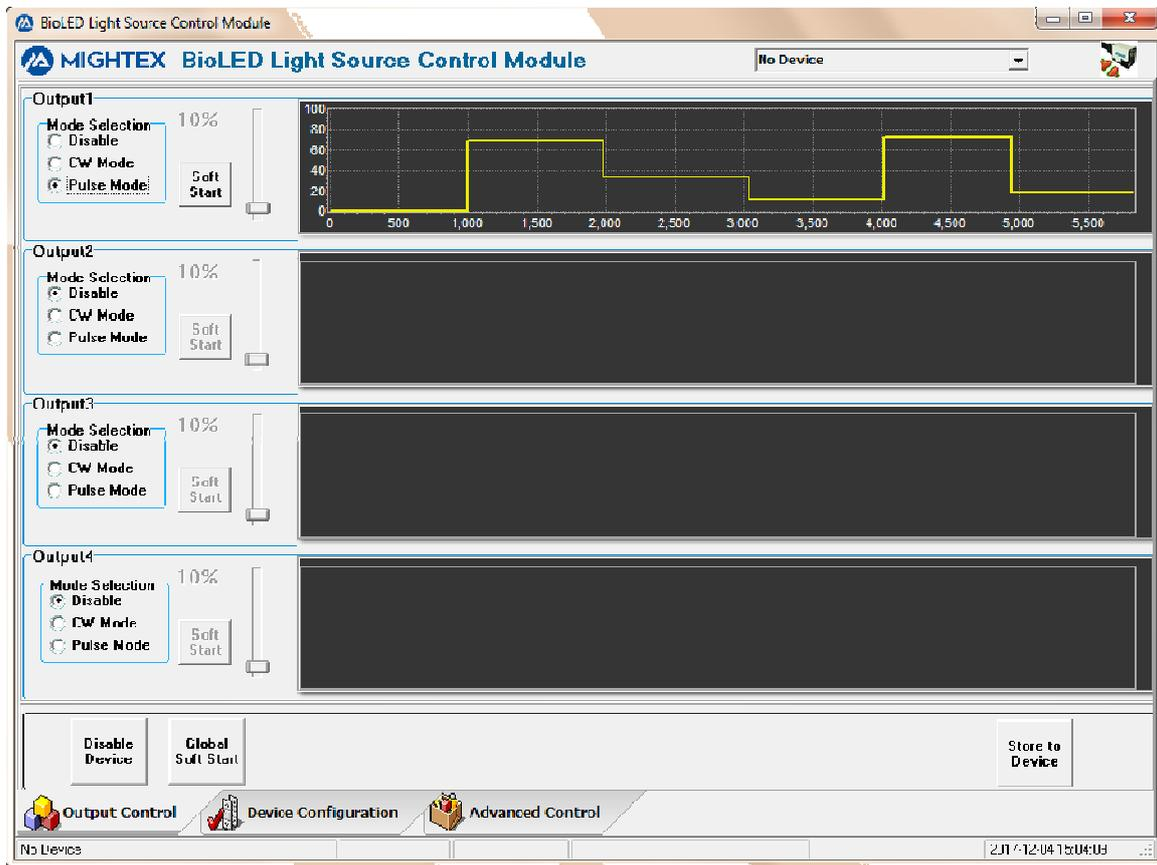

Figure 4.18 The Main Operation Window with new pulse profile loaded (Output1)
*. Click the [OK] button to accept the new profile as the pulse profile of the output. It will close the “Pulse Profile Settings” window and returns to the main operation window. As shown in the Figure 4.18, the new pulse profile will be displayed on the output chart (in this example, it is Output1).